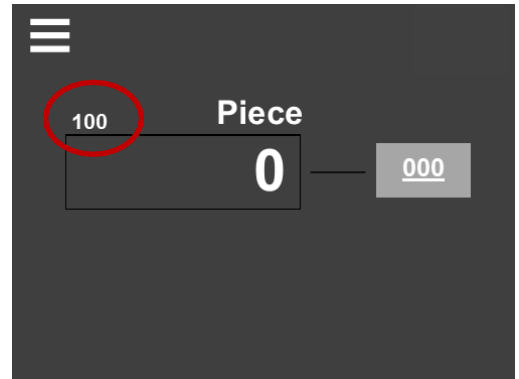

Figure 8.4.3
5. The entered quantity is displayed on the production screen. See Figure 8.4.3.